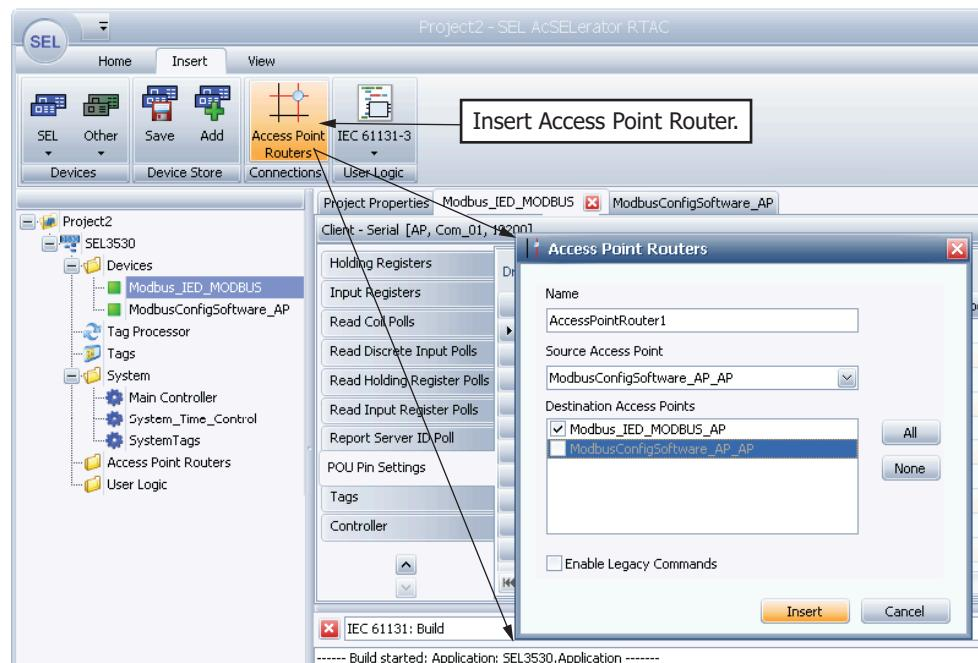

Figure 4.6 Direct Transparent Modbus
- Step 7. Insert an APR. This time, do not select Enable Legacy Commands. See *Figure 4.6*.